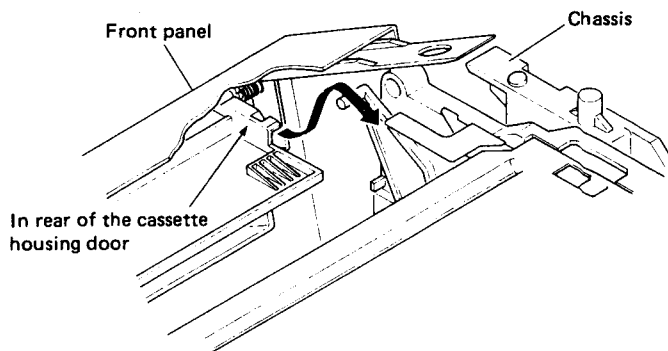

Fig. 1-1-12
4. Install the front panel as shown in Fig. 1-1-12 and reengage the tabs. Supply power and use a spare cassette to check for normal loading and eject operations.